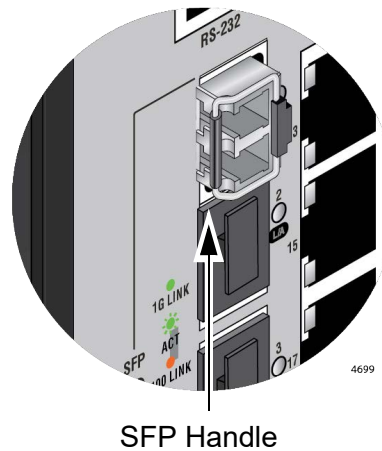

Figure 38. Verifying the Position of the SFP Handle
5. Verify the handle on the transceiver is turned to the left. Refer to Figure 38.